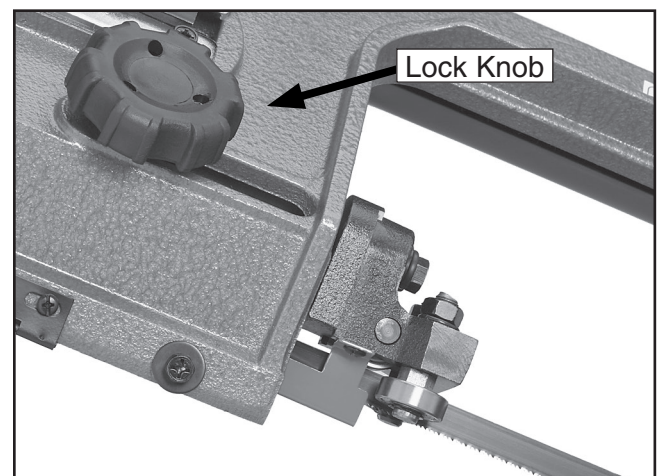

Figure 26. Blade guide position lock knob.
7. Tighten the jam nuts, loosen the lock knob, and slide the blade guide close to the workpiece so the blade is supported and will not twist during the cut (see **Figure 26**).